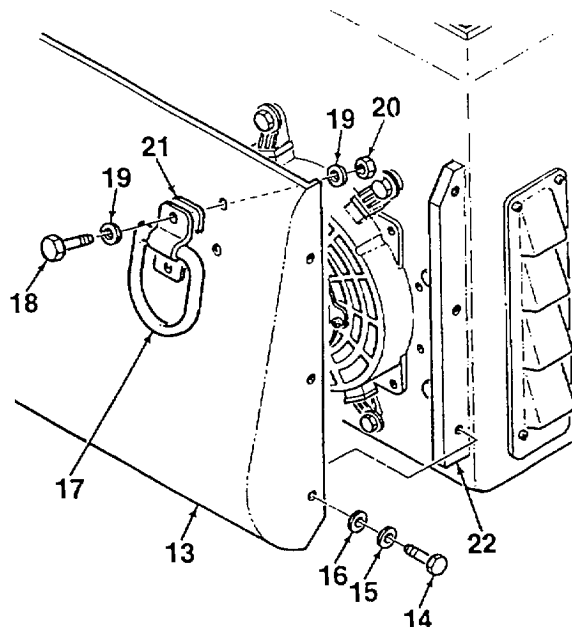

Figure 4-6. Tie Down and Hoist Rings
1. Install two tie down rings (17, Figure 4-6) and gaskets (21) onto nosepiece assembly (13) using screws (18), washers (19), and locknuts (20).
2. Apply a thin bead of silicon adhesive to lip at top of nosepiece (13) that mates with enclosure. Apply adhesive to top 3 inches of lip on each side of nosepiece as well.
3. Mate nosepiece assembly (13) to brackets (22) and secure using six screws (14), lockwashers (15), and washers (16).
4. Install right hand tie down ring (7) and gaskets (11) onto rear panel of enclosure (8) using screws (12) and locknuts (10).
5. Install left hand tie down ring (7), gasket (11), and control panel mounting block using screws (9) and locknuts (10).
6. Install hoist ring (1), blocks (2), and rubber strip (6) onto cover assembly cross member using screws (3), washers (4), and locknuts (5).